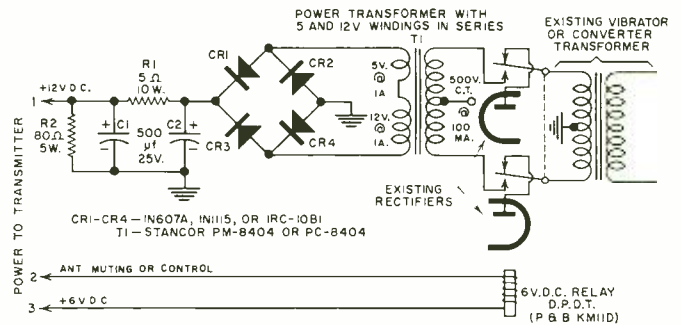

Fig. 2. Power supply using car radio's vibrator transformer.
3. 6-volt system, auxiliary supply. Those builders who wish to maintain a full 3 watts output but still operate with the transmitter on a 6-volt electrical system, may construct a simple 12-volt d.c. supply using the power available in a standard car radio (Fig. 2). In this supply, power from the secondary of the vibrator transformer (or transistorized converter transformer) is stepped down to about 12 volts, rectified, and used to supply power to the transmitter circuitry only. The relay supply voltage still remains at 6 volts.